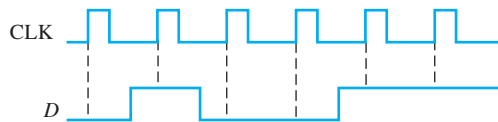

FIGURE 7-81
12. For a positive edge-triggered D flip-flop with the input as shown in Figure 7-81, determine the Q output relative to the clock. Assume that Q starts LOW.